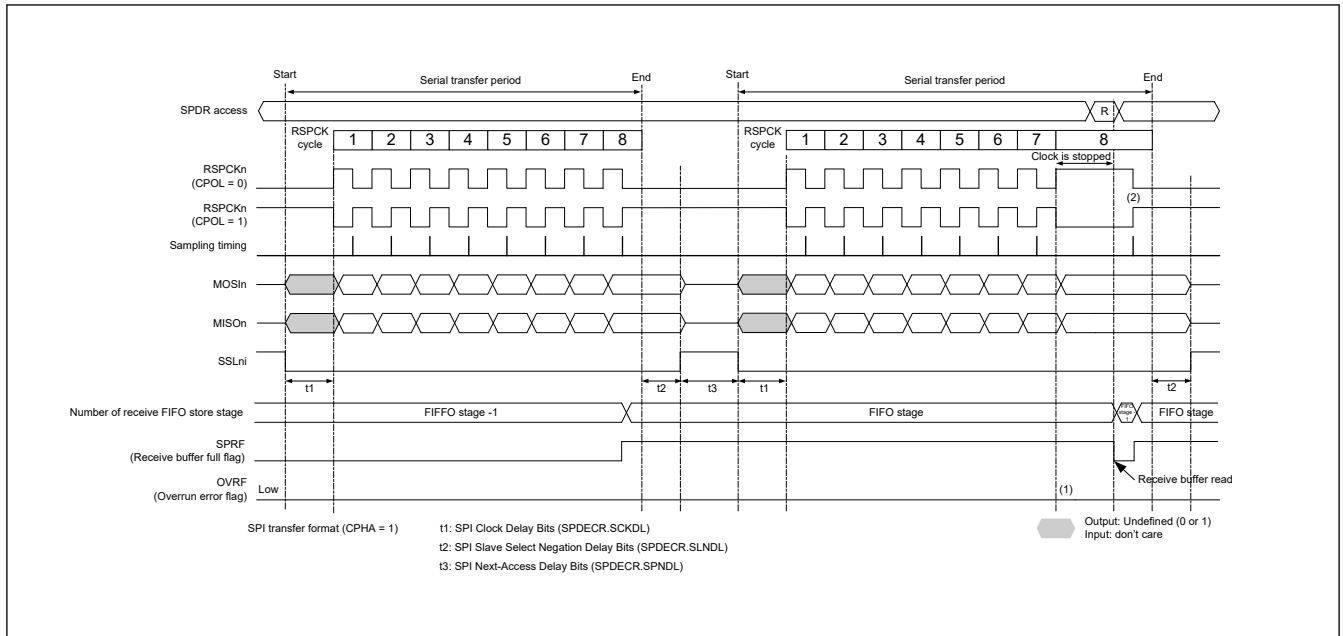
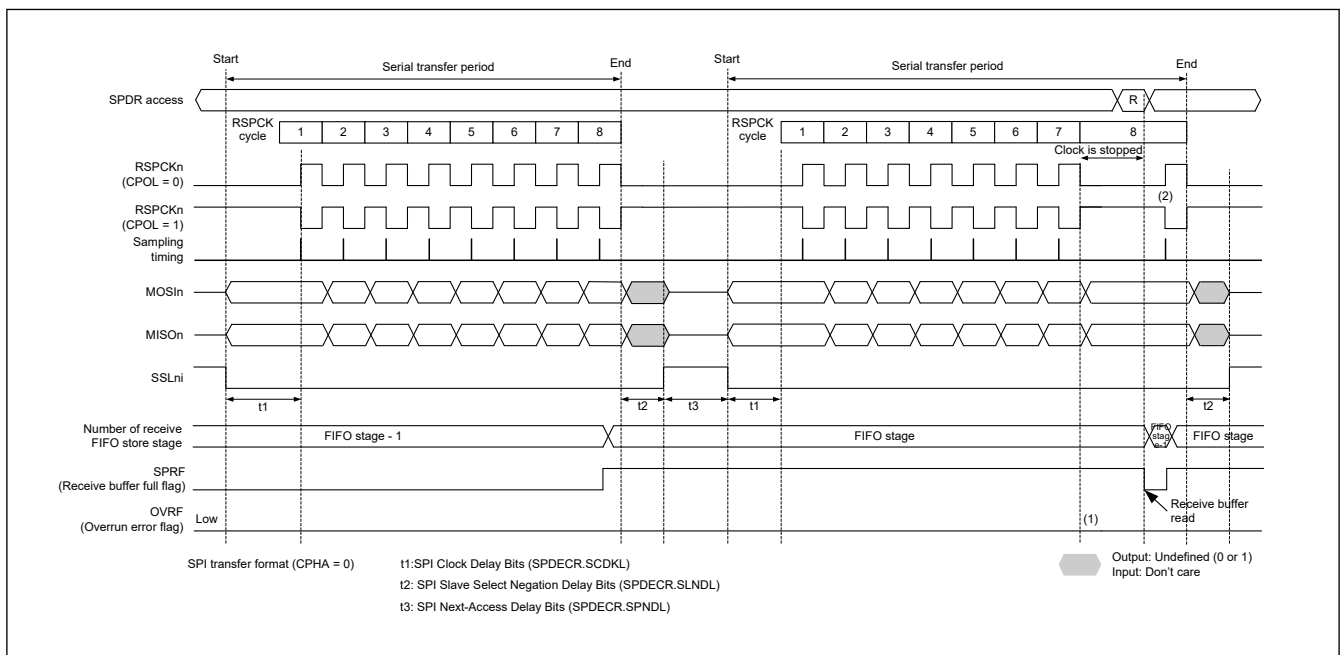

Figure 44.48 Clock stop waveform when serial transfer continues with data is stored for the number of FIFO stages in master mode (CPHA = 1)
Figure 44.49 Clock stop waveform when serial transfer continues with data is stored for the number of FIFO stages in master mode (CPHA = 0)
When the RSPCK auto-stop function is enabled (SPCR.SCKASE = 1) in master mode, an overrun error does not occur. Figure 44.48 and Figure 44.49 show the clock stop waveform when a serial transfer continues while the receive buffer is full in master mode.
The operation of the flags at timings (1) and (2) in Figure 44.48 and Figure 44.49 is as follows: